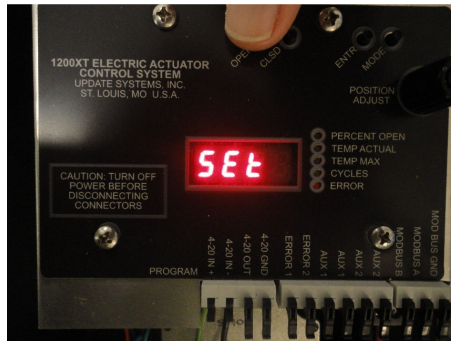

Figure 14
Step 4: To preserve a previous Open calibration, press **ENTR** to skip (the current raw position will flash on display); otherwise, press and release the **OPEN** button to store the input reference [and position]. If fine adjust was used as described in Step 3, then simply release the **OPEN** button. If Step 3 was skipped, Remote calibration may be used to set the position. The unit will display [**SEt**] to indicate that the calibration parameters have been saved for open position as shown in Figure 14.